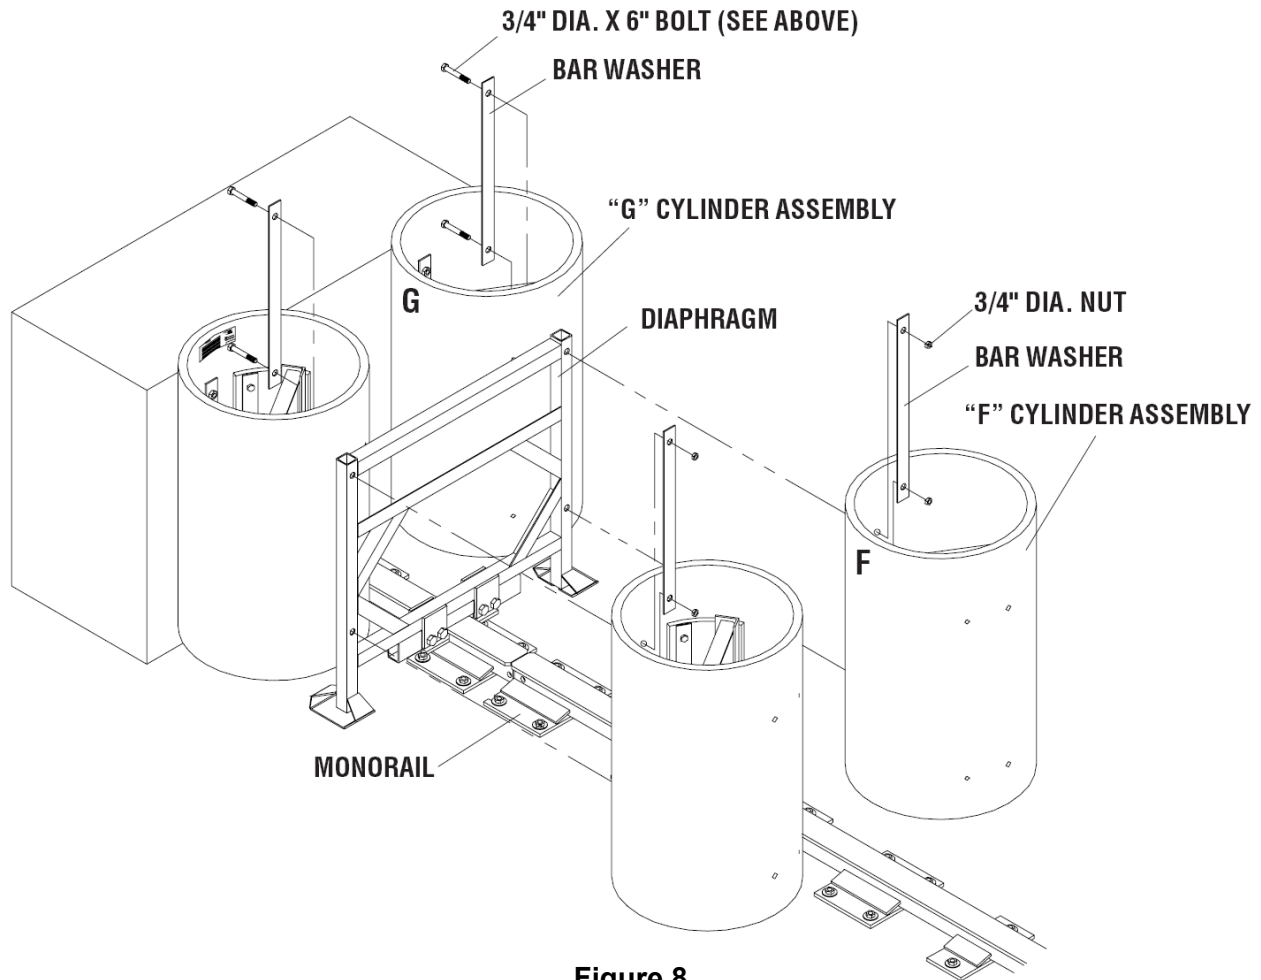

Figure 8
3. Reassemble "F" Cylinder/Diaphragm Assembly onto "G" Cylinder Assemblies as shown in Figure 8.